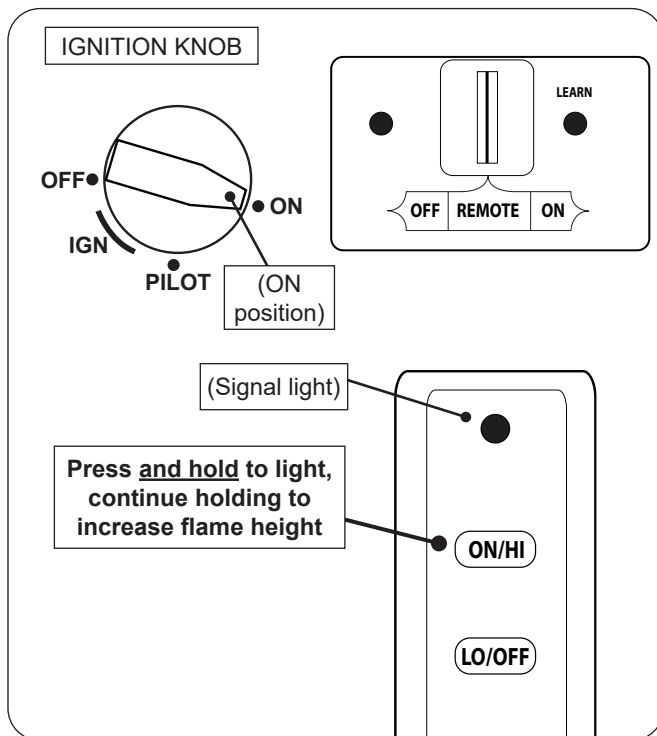

Fig. 32-1 Remote lighting
1. Ensure the pilot is burning. Turn the ignition knob counterclockwise ↶ to **ON** (see Fig. 32-1).
2. Locate the 3-position switch on the remote receiver, and slide the switch to **REMOTE** (see Fig. 32-1).
3. Locate the remote transmitter and press and hold the **ON/HI** button (see Fig. 32-1). The ignition sequence will begin.